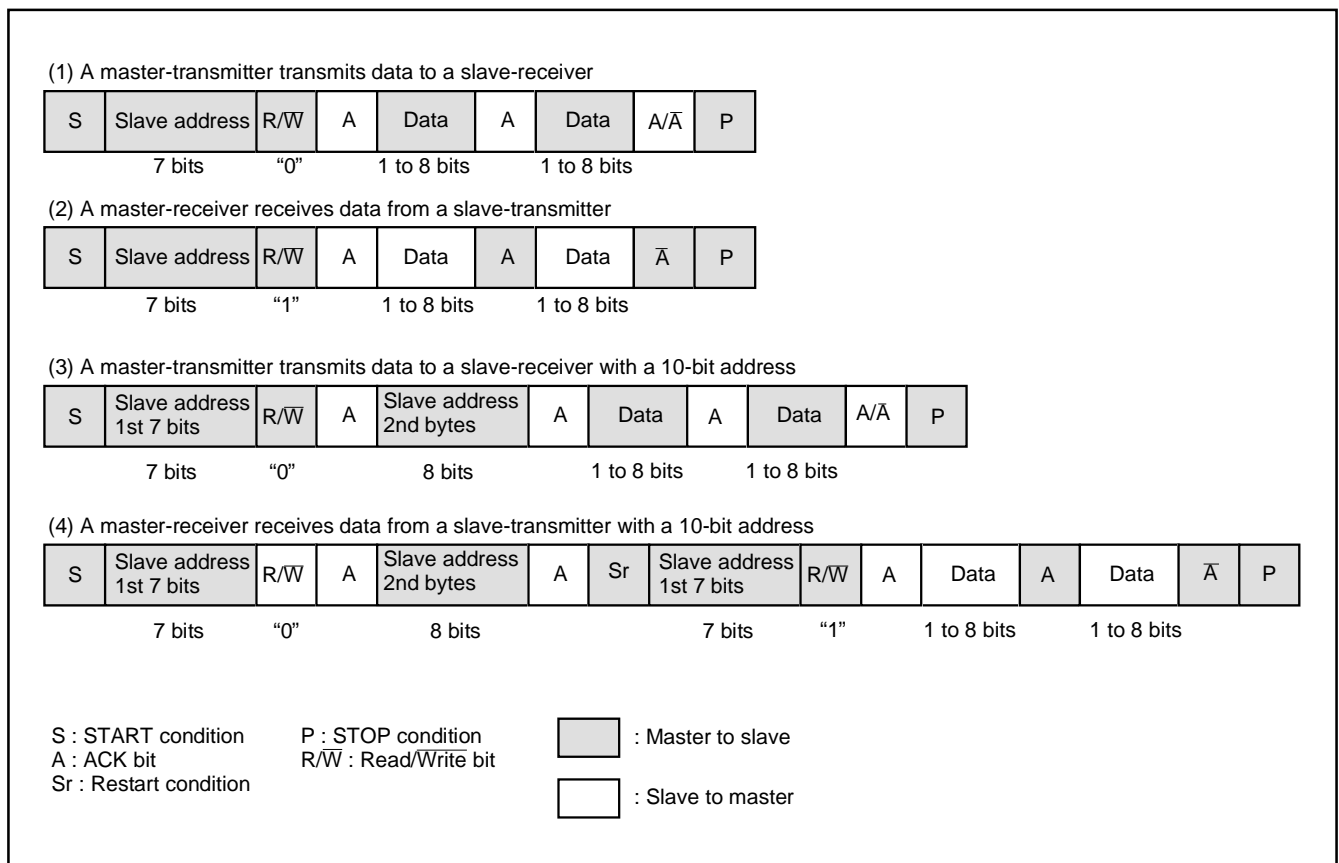

Fig. 77 Address data communication format
① 7-bit addressing format
To adapt the 7-bit addressing format, set the 10BIT SAD bit of the I2C control register (S1D: address 001416) to "0". The first 7-bit address data transmitted from the master is compared with the high-order 7-bit slave address stored in the I2C slave address register. At the time of this comparison, address comparison of the RWB bit of the I2C slave address register is not performed. For the data transmission format when the 7-bit addressing format is selected, refer to Figure 77, (1) and (2).
② 10-bit addressing format
parison, an address comparison between the RWB bit of the I2C slave address register and the R/W bit which is the last bit of the address data transmitted from the master is made. In the 10-bit addressing mode, the RWB bit which is the last bit of the address data not only specifies the direction of communication for control data, but also is processed as an address data bit. When the first-byte address data agree with the slave address, the AAS bit of the I2C status register (S1: address 001316) is set to "1." After the second-byte address data is stored into the I2C data shift register (S0: address 001116), perform an address comparison between the second-byte data and the slave address by software. When the address data of the 2 bytes agree with the slave address, set the RWB bit of the I2C slave address register to "1" by software. This processing can make the 7-bit slave address and R/W data agree, which are received after a RESTART condition is detected, with the value of the I2C slave address register. For the data transmission format when the 10-bit addressing format is selected, refer to Figure 77, (3) and (4).